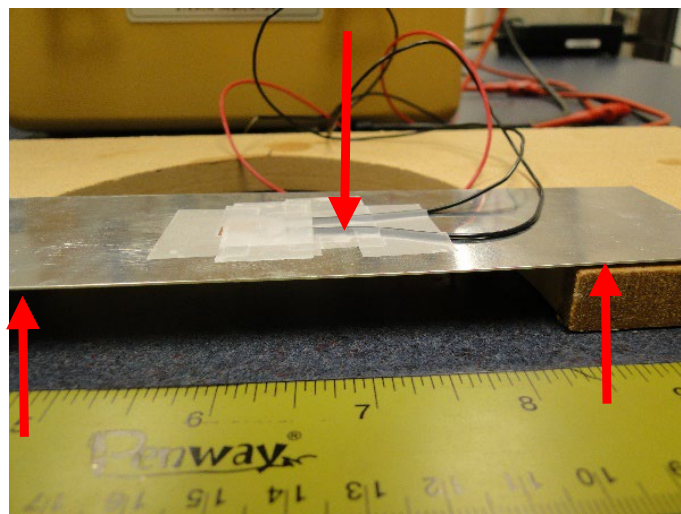

Figure 7. Three-point bending setup with external load applied at center
- (f) Find a location on the specimen closest to the gage (as indicated by the downward arrow in Fig. 7) and place there the two or more small flat spacers (as provided on the bench table) around the gage, at least one on each side. Then put the weight (also provided on the table) on top of the spacers. Use the ruler to measure the vertical deflection of the specimen where gages are attached. This can be done by setting the ruler on the tabletop vertically against the edge of the specimen closest to gage’s horizontal position and read out the height change before and after the weight is applied.